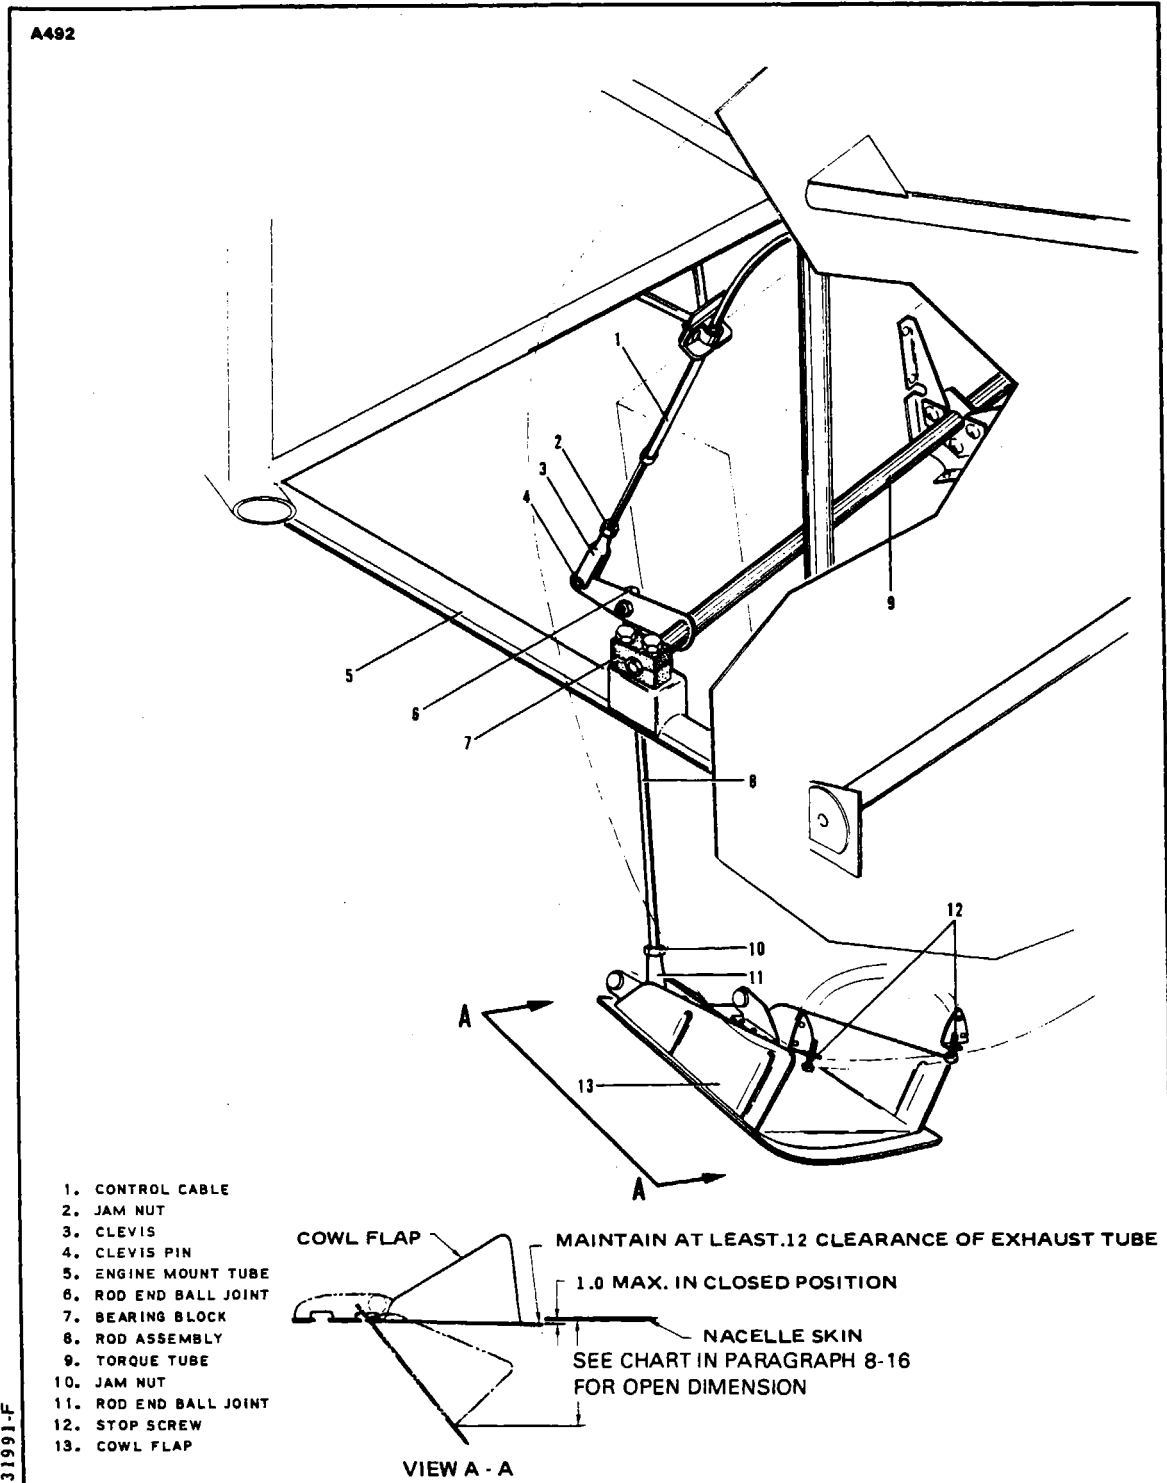

Figure 8-1. Cowl Flap Installation
8-12. REMOVAL OF COWL FLAP ASSEMBLY. (Refer to Figure 8-1.)
8-15. INSTALLATION OF COWL FLAP ASSEMBLY. (Refer to Figure 8-1.)
8-16. RIGGING AND ADJUSTING ENGINE COWL FLAPS. (Refer to Figure 8-1.)
- c. With the cowl flap selector in the cabin placed in the OPEN position, adjust the rod ends (6 and 11) of the rod assembly (8) so the cowl flap is open to the dimension shown in Figure 8-1 for the particular serial numbers noted in the following chart.
- d. This dimension should be measured normal to the nacelle skin. (Refer to Figure 8-1.) Divide the adjustment between both rod ends, and check all rod ends and clevis ends for adequate thread engagement.
- g. Adjust the two stop screws(12) at the trailing edge of the cowl flaps until they contact the cowl flaps firmly.